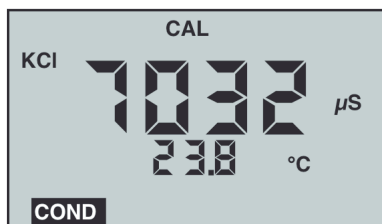

Figure 5
- c. Press  or , then press ; “**CAL**” icon will appear on the display (see Figure 5).